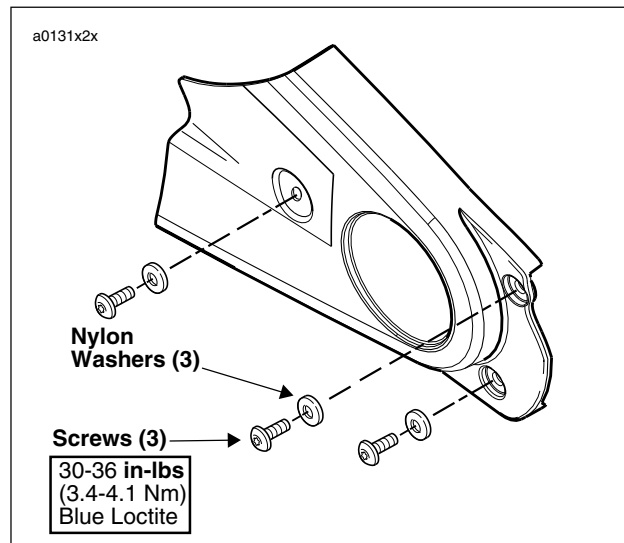

Figure 2-97. Sprocket Cover
3. See Figure 2-97. Remove the three screws and washers on sprocket cover.